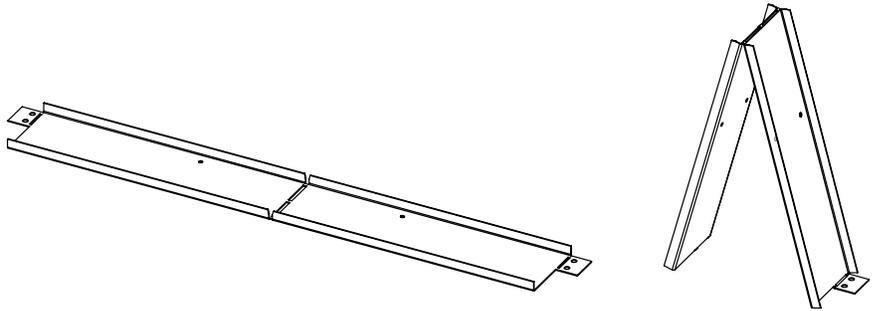

Figure 26: Top Standoff Shape
1. Bend top standoffs by hand to form general shape (see Figure 26).